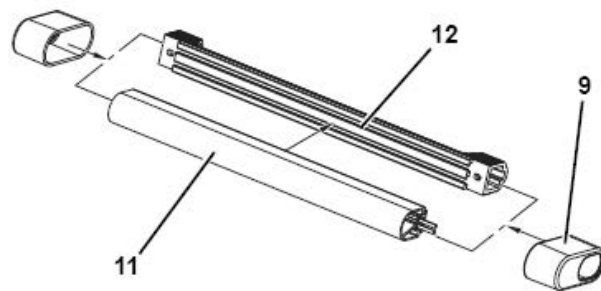

Figure 4-26.
2. Align and attach Platform Sensor Mount (12) onto the SkyGuard Switch (11) as shown in Figure 4-26.
3. Attach Platform Sensor Covers (9) to SkyGuard switch assembly at both ends. See Figure 4-26.